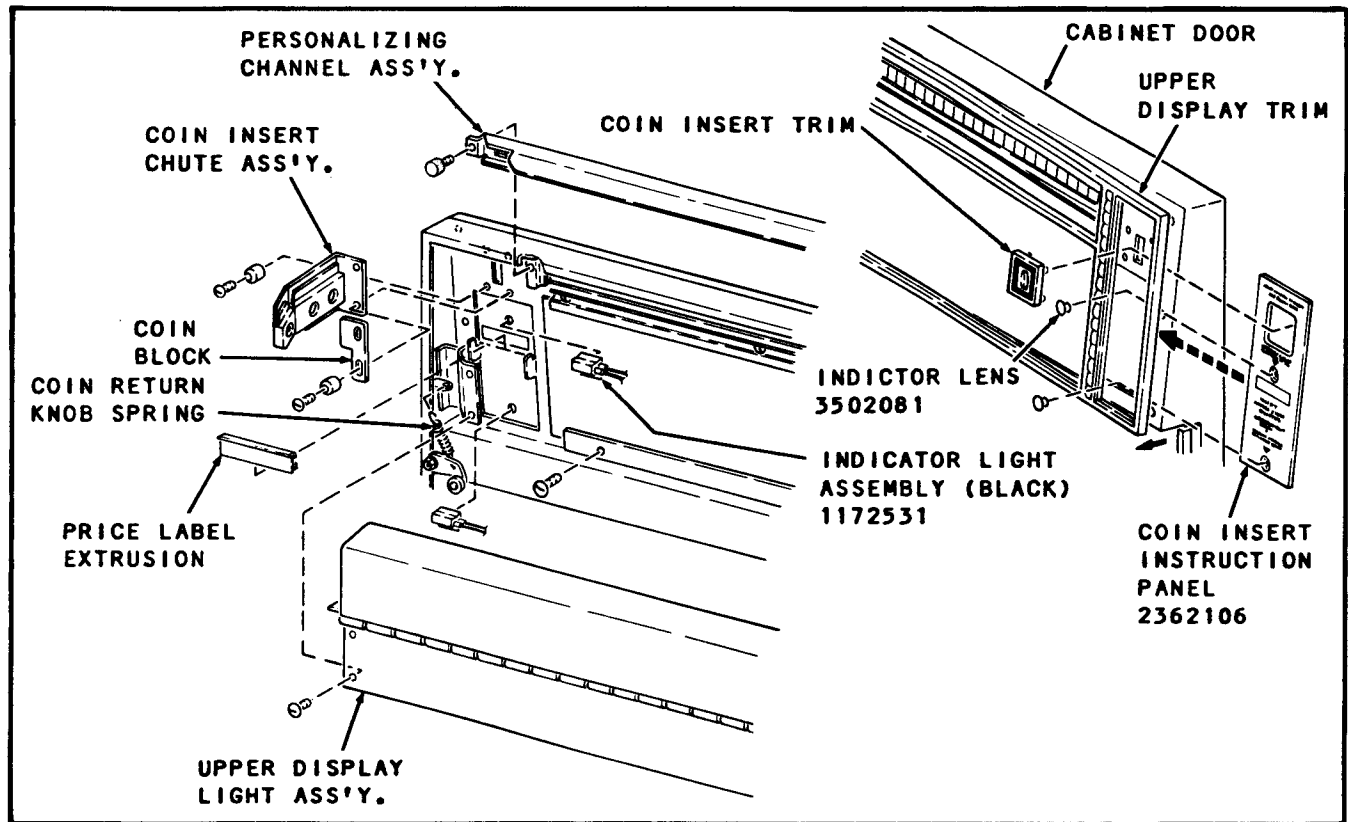

FIGURE 2
2. Remove the following parts from the door: Upper Display Light Assembly, Price Label Extrusion; Coin Insert Chute Assembly; Coin Block, Coin Insert Trim; Personalizing Channel Assembly and Coin Insert Instruction Panel, as shown in Figure 2.
3. Disconnect the Coin Return Knob Spring. See Figure 2.
4. Disconnect the Indicator Light Assembly from the Indicator Lens for the Sold Out Light and Exact Change Light (if so equipped). Remove lens from the door as shown in Figure 2.
5. Remove the five screw that fasten the Upper Display Trim to the Cabinet Door on the right side Only. See Figure 2.
slide Coin Insert Instruction Panel from kit into place as shown in Figure 2.
10. Complete the assembly of the Cabinet Door by reversing the Parts Removal Instructions A-2 to A-5 as shown in Figure 2.